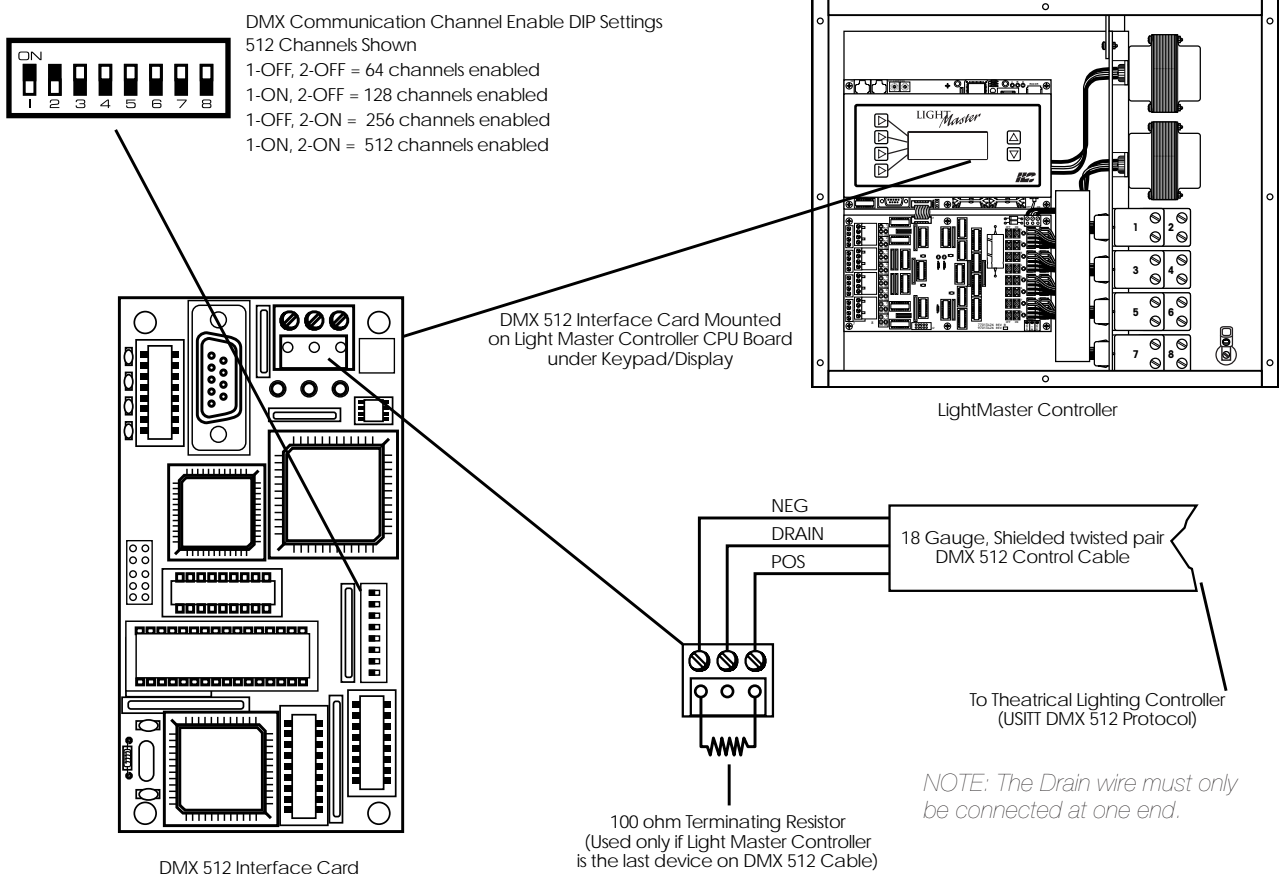

Figure D.1 – DMX Interface Hardware Features
- The physical link is a standard USITT DMX 512 control cable (18 gauge, shielded twisted pair) that runs from the DMX output of the theatrical lighting controller to the LightMaster DMX communications port. The DMX 512 interface mounts on the LightMaster CPU board. (See Figure D-1.)